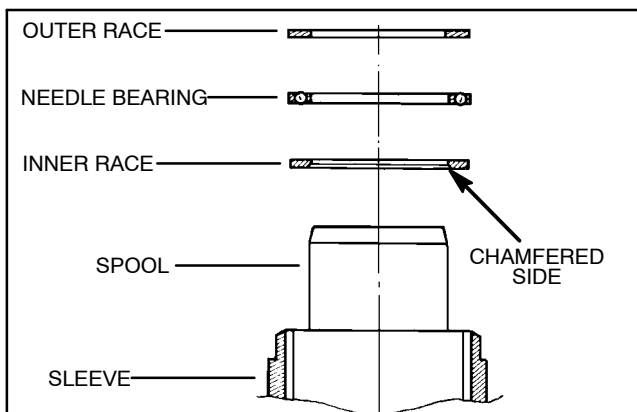

Figure 72
6. Install bearing assembly onto the spool and sleeve (Fig. 72).